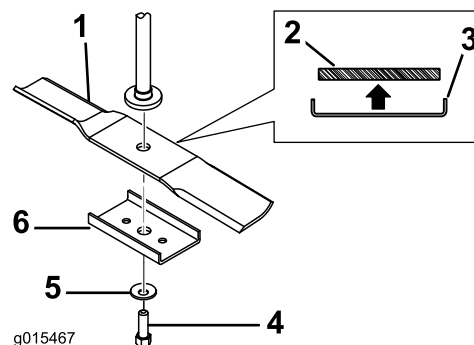
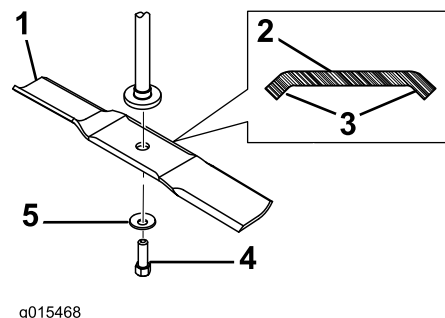

Figure 2
Figure 3
1. Choose the style of blade, of those shown in Figure 2 and Figure 3 that best matches the blades on